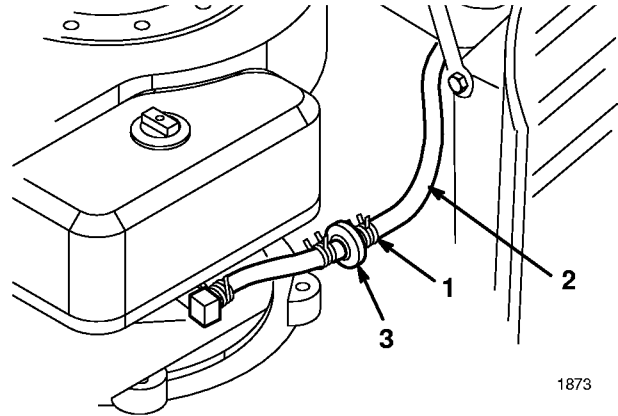

Figure 24
3. Squeeze the ends of the hose clamp and slide it up the fuel line toward the fuel tank (Fig. 24).
4. Pull the fuel line off the filter (Fig. 24) and allow gasoline to drain into a gas can or drain pan.
The best time to replace the fuel filter (Fig. 24) is when the fuel tank is empty. Never install a dirty filter if it is removed from the fuel line.
3. Squeeze the ends of the hose clamps together and slide them away from the filter (Fig. 24).